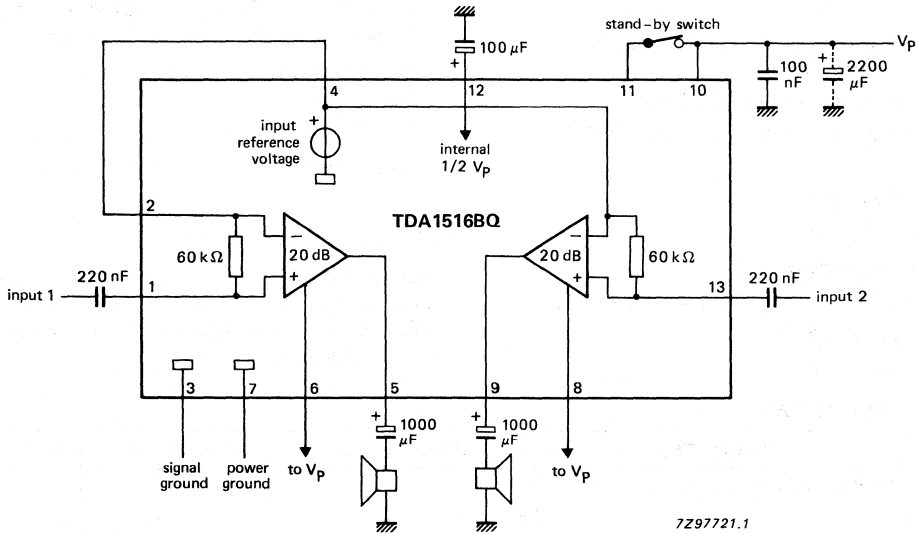

Fig. 3 Stereo application circuit diagram.
- All characteristics, for stereo application are measured using the circuit shown in Fig. 3.